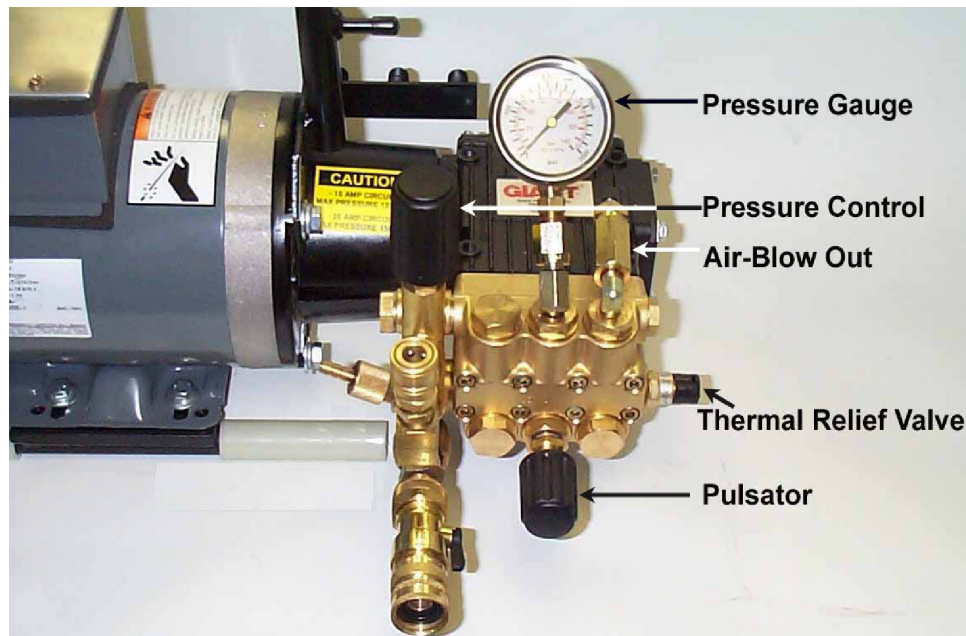

Fig. 6
10. The "Mini Jet" will operate up to 1,500 psi. If the machine is operating at a lower pressure, the pressure control knob can be turned clockwise (right) to increase the pressure. The operating pressure is shown on the pressure gauge (see Fig. 6).